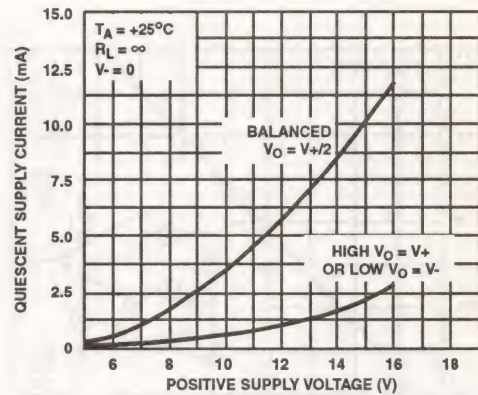

FIGURE 4. QUIESCENT SUPPLY CURRENT vs SUPPLY VOLTAGE
**Single supply operation:** Initially, let it be assumed that the value of  $R_L$  is very high (or disconnected), and that the input-terminal bias (Terminals 2 and 3) is such that the output terminal (No. 6) voltage is at  $V_+/2$ , i.e., the voltage-drops across Q8 and Q12 are of equal magnitude. Figure 4 shows typical quiescent supply-current vs. supply voltage for the CA3160 operated under these conditions.
a corresponding reduction in supply-current. In the extreme case, e.g., with Terminal 8 swung down to ground potential (or tied to ground), NMOS transistor Q12 is completely cut off and the supply current to series connected transistors Q8, Q12 goes essentially to zero. The two preceding stages in the CA3160, however, continue to draw modest supply-current (see the lower curve in Figure 4) even though the output stage is strobed off. Figure 12(A) shows a dual-supply arrangement for the output stage that can also be strobed off, assuming  $R_L = \infty$ , by pulling the potential of Terminal 8 down to that of Terminal 4.